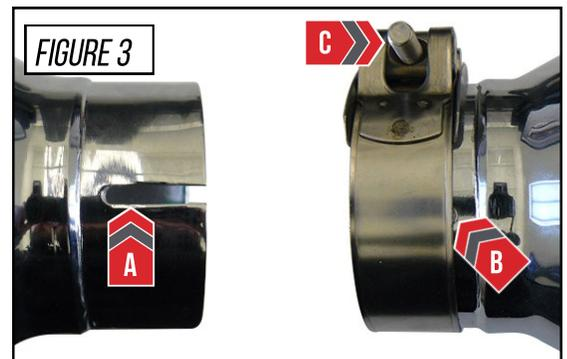

FIGURE 3
To accomplish the best tip fitment, align the 3.0" tip clamp to cover *only* the slot, as shown by **Arrow A** in **Figure 3**.
The clamp should only be covering the section of the tip that has been slotted, as shown by **Arrow B** in **Figure 3**.
- It is required to apply anti-seize to the threads to prevent the clamps from breaking, shown by **Arrow C** in **Figure 3**.